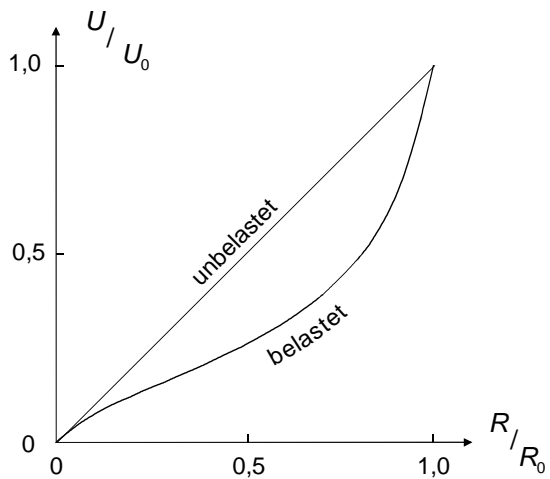

Fig. 3 Potentiometer's voltage without (above) and with (below) an additional load resistance.
- Verify formula (1) theoretically by using the laws of total resistance.
- Plot the measured ratio U/U_0 against $R/R_0=s/s_0$ for the unloaded and loaded voltage divider together with the theoretically expected curves (s. Fig. 3) into one diagram.